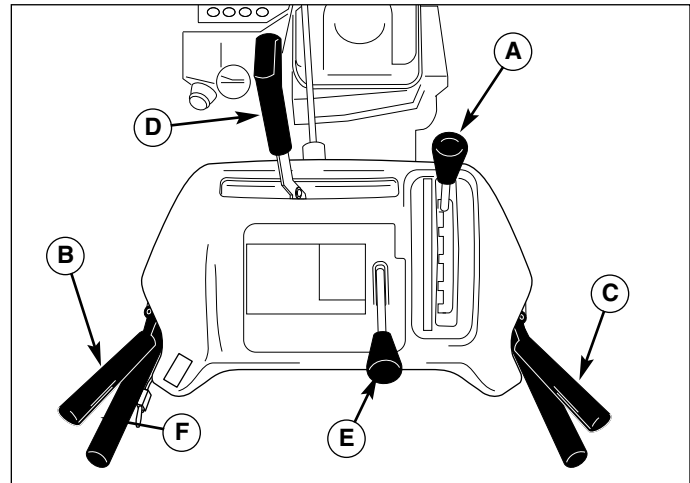

Figure 5. Controls (From Operator's Position)
3. Fully press and hold the auger engage control (C, Figure 5) on the right-hand grip to begin auger rotation. Releasing the auger engage control will disengage the auger —**unless the Free-Hand™ Control has been activated (See Step 5 below).**
4. Fully press and hold the traction & Free-Hand™ Control lever (B, Figure 5) on the left-hand grip to engage the traction drive and begin moving the snowthrower. To disengage the traction drive, completely release the lever.
6. Select forward or reverse speeds as needed using the Speed Selector (A, Figure 5). Release both control levers before changing drive speeds.
Use the speed selector (A, Figure 5) to control the drive speed of the snowthrower. There are six forward speeds and two reverse speeds.
To change speeds, release the auger control lever (B, Figure 5), then move the speed selector to the desired setting. Fully depress the control levers to resume.
1. Push the remote deflector control (E, Figure 5) to the left to UNLOCK the control. Sliding the control forward will put the deflector to the maximum throwing position (A, Figure 6). Sliding the control backwards to decrease the throwing distance.